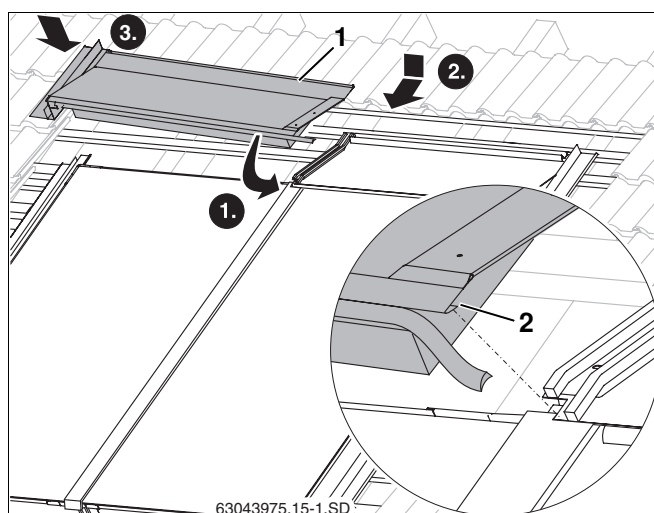

Fig. 55 Upper left facing collector
- Feed collector fold on remaining upper facing collectors (Fig. 55, **Item 2**) into the fitted facing collector and then push towards the collector.
- Feed the upper left facing collector (Fig. 55, **Item 1**) into the side facing collector on the left.